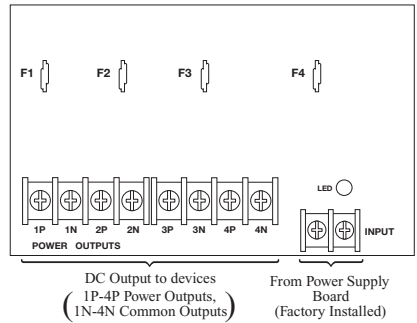

Fig. 3a - PD8UL Power Distribution Board
- b. For other Power Distribution Models: connect devices to be powered to the terminal pairs 1 to 4 marked [1P & 1N] through [4P & 4N] (*Fig. 2a & 2b, pg. 7*) or 1 to 8 marked [1P & 1N] through [8P & 8N] (*Fig. 3a & 3b, pg. 7*), carefully observing correct polarity.
6. For Access Control applications batteries are optional. When batteries are not used, a loss of AC will result in the loss of output voltage. When the use of stand-by batteries is desired, they must be lead acid or gel type. Connect one (1) 12VDC battery to the terminals marked [+ BAT -] for 12VDC operation. Use two (2) 12VDC batteries wired in series for 24VDC operation.